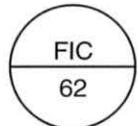

Figure 49. Instrument Tag
6. Determine the measured variable indicated in the instrument tag in figure 49.